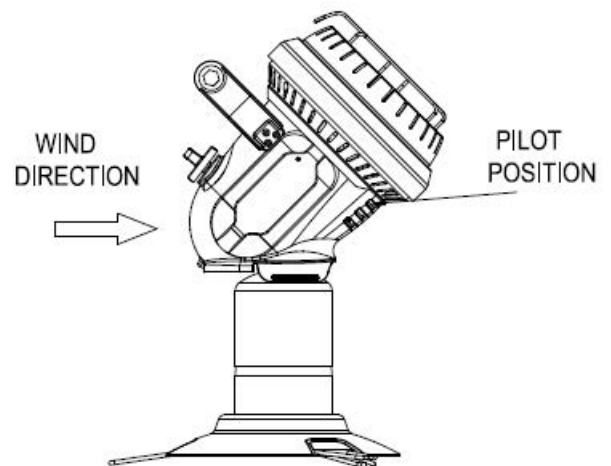

Fig. 2 - Lighting in Windy Areas
1. Position the heater such that the Pilot is opposite the direction that the wind is coming from. See figure 2